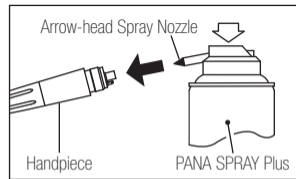

Fig. 10
- 2) Mount the arrow-head spray nozzle tip into the spray can port. (Fig. 10)